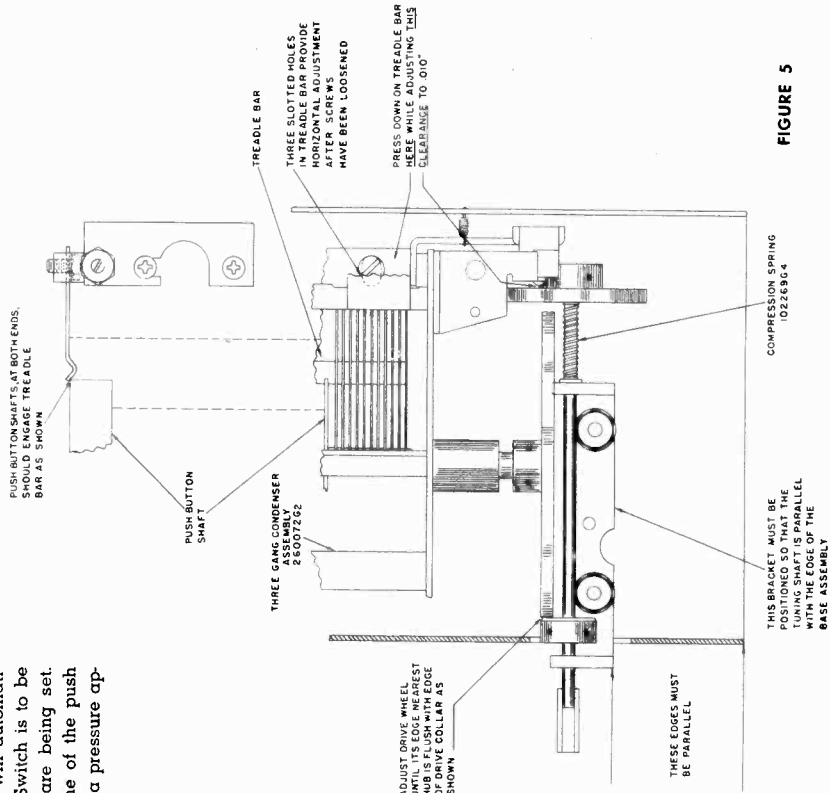

FIGURE 5
1. Assemble the Tuning Shaft, Drive Collar, Compression Spring and Flywheel in the order shown on Figure 5. The distance between the front of the Drive Collar and the front of the Tuning Shaft must be 1 1/2 inches as specified on Figure 4. Install the Flywheel on the rear of the Tuning Shaft and slide it forward until it nearly touches the edge of the Drive Wheel; then tighten one of the set screws in the Flywheel hub. Insert a .010" gauge between the Flywheel and the Pin, and while holding the gauge in this position, loosen the set screw in the Flywheel hub that was previously tightened. The Compression Spring should force the Flywheel back against the gauge-- when this occurs, tighten both set screws in the Flywheel hub.
3. The Drive Wheel is properly located on its shaft when its edge nearest the hub is in line with the outside edge of the Drive Collar as shown on Figure 5. Two Allen set screws in the Drive Wheel hub provide a means of adjusting the position of this wheel.
5. If the push button shafts at both ends do not engage the Treadle Bar as shown on Figure 5, the three screws in the Treadle Bar must be loosened and the Treadle Bar should be moved until the required condition is obtained.